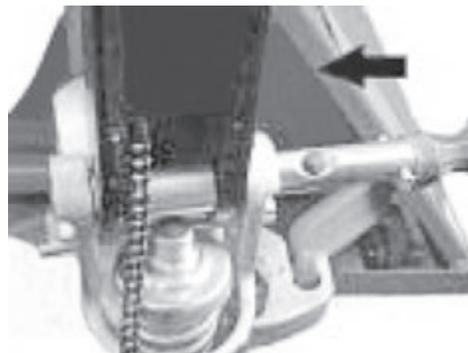

Fig. 2
- 2.1 Insert handle onto pump piston (303), then use a hammer to insert the axle with hole (105) through the pump and handle from **right side to left** until split pin seats in groove on pump body (see Fig. 2). Note this axle has two split pins (106), one is pre-inserted into the axle, the other is applied in step 2.5. Axle and pins are in plastic bag attached to handle.